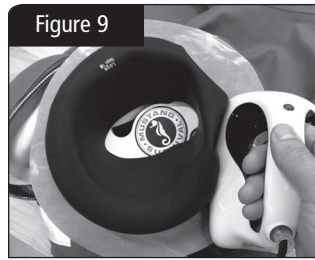

Figure 7
5. Ensure that there are no wrinkles in the fabric or neck seal. Folding the neck seal in on itself will help to keep its shape and aid in the replacement process. See Figure 7.